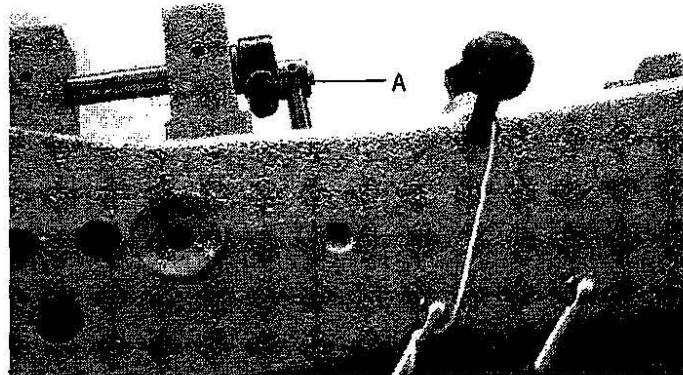

Fig.32
19. TIMING OF THE VIBRATING AND LIFTING PRESSER FEET (Fig. 32)
The timing position for the vibrating and lifting presser feet should be regulated by Fig. 32.